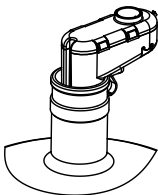

Figure 12a
Removing the cover of the collection bowl (Fig. 12a, 12b)
- Pull the front of the cover (in the nozzle) upward to form the small gap between the cover and the machine as shown in (Fig. 12a).